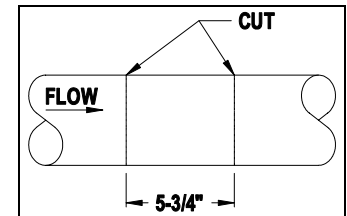
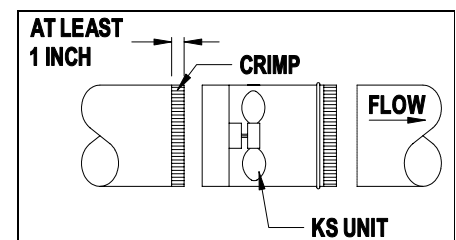

Figure 2
Figure 3
2. An alternative method is to cut a 5-3/4" section out of the duct pipe. (See Figure 2) Then crimp the end of the duct pipe with at least 1" crimp. (See Figure 3)
3. Install the EVENAIR® unit with the crimped end pointing toward the problem area. (See Figure 3) Secure the unit with sheet metal screws and seal joints with duct tape. Support the unit with an acceptable hanging method.